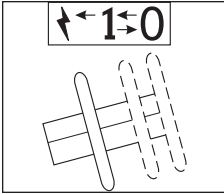

Figure 4
2. In a well ventilated area away from ignition sources, push the blue On/Off Valve and Ignition Switch to the '1' (Ignite) position and hold for a few seconds (Figure 4). The gun should ignite and a hissing sound indicates butane flow.